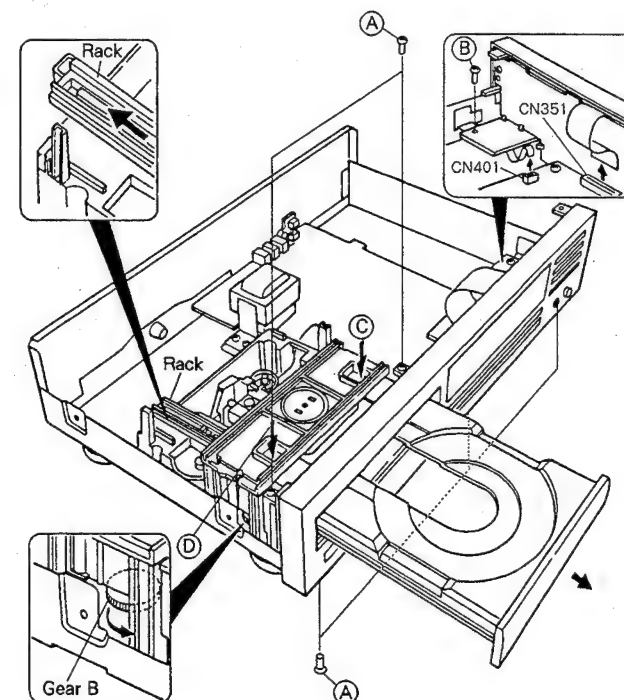

Fig. 2-2
- ① Turn the POWER switch ON, and open the tray by the OPEN/CLOSE key. (Refer to the Note 1 when opening the tray by hand-operated.)
- ② Pull out the tray slowly by pushing the nail of the tray section from two holes (C) and (D) of the clamp holder (Fig. 2-2). (It is necessary to push the nail of the tray section at the front panel portion.)
- ① Remove five screws (A) (Upper side is two screws and under side is three screws.) to the front panel.
- ② Remove a screw (B) to the Headphone board assembly (Fig. 2-2).
- ③ Disconnect two connectors CN351 and CN401 from the Mother board assembly (Fig. 2-2).
- ④ Remove the front panel and the Headphone board assembly together.
- ① Turn the gear B slowly in the direction of arrow by ⊖ screwdriver with care not to damage the gear B (Fig. 2-2).
- ② Turn gear B until the tray starts to move in the direction of the OPEN position.
- ③ Move the tray to the OPEN position by hand.